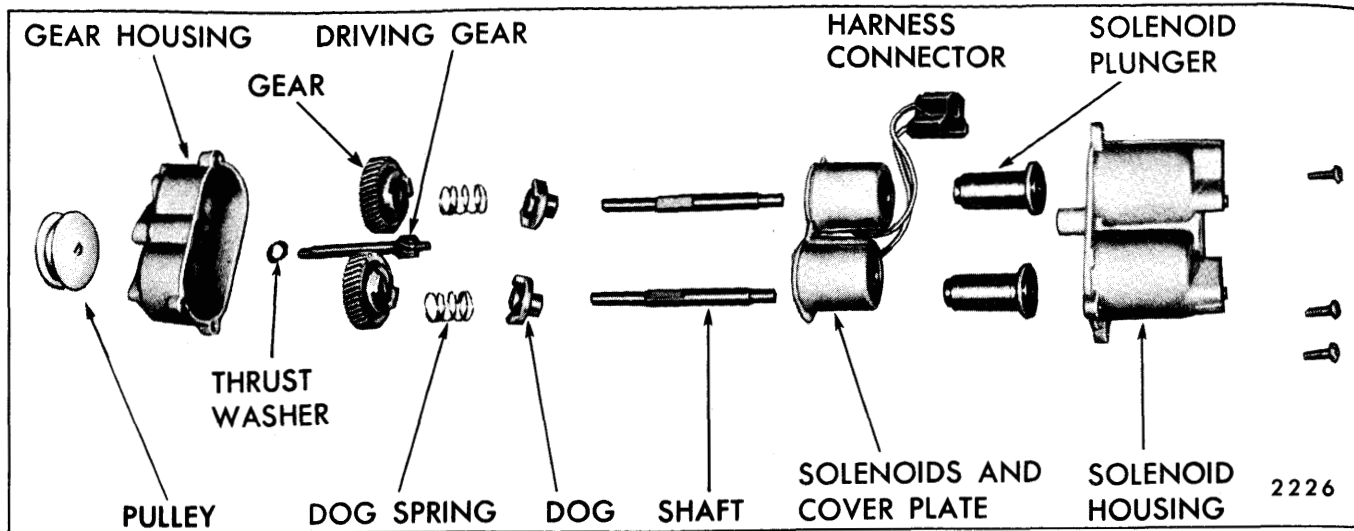

Fig. 10-38—Four-Way Bucket Seat Transmission
2. Remove screws securing gear and solenoid housings together; then, carefully separate housings and remove component parts of transmission assembly (Fig. 10-38).